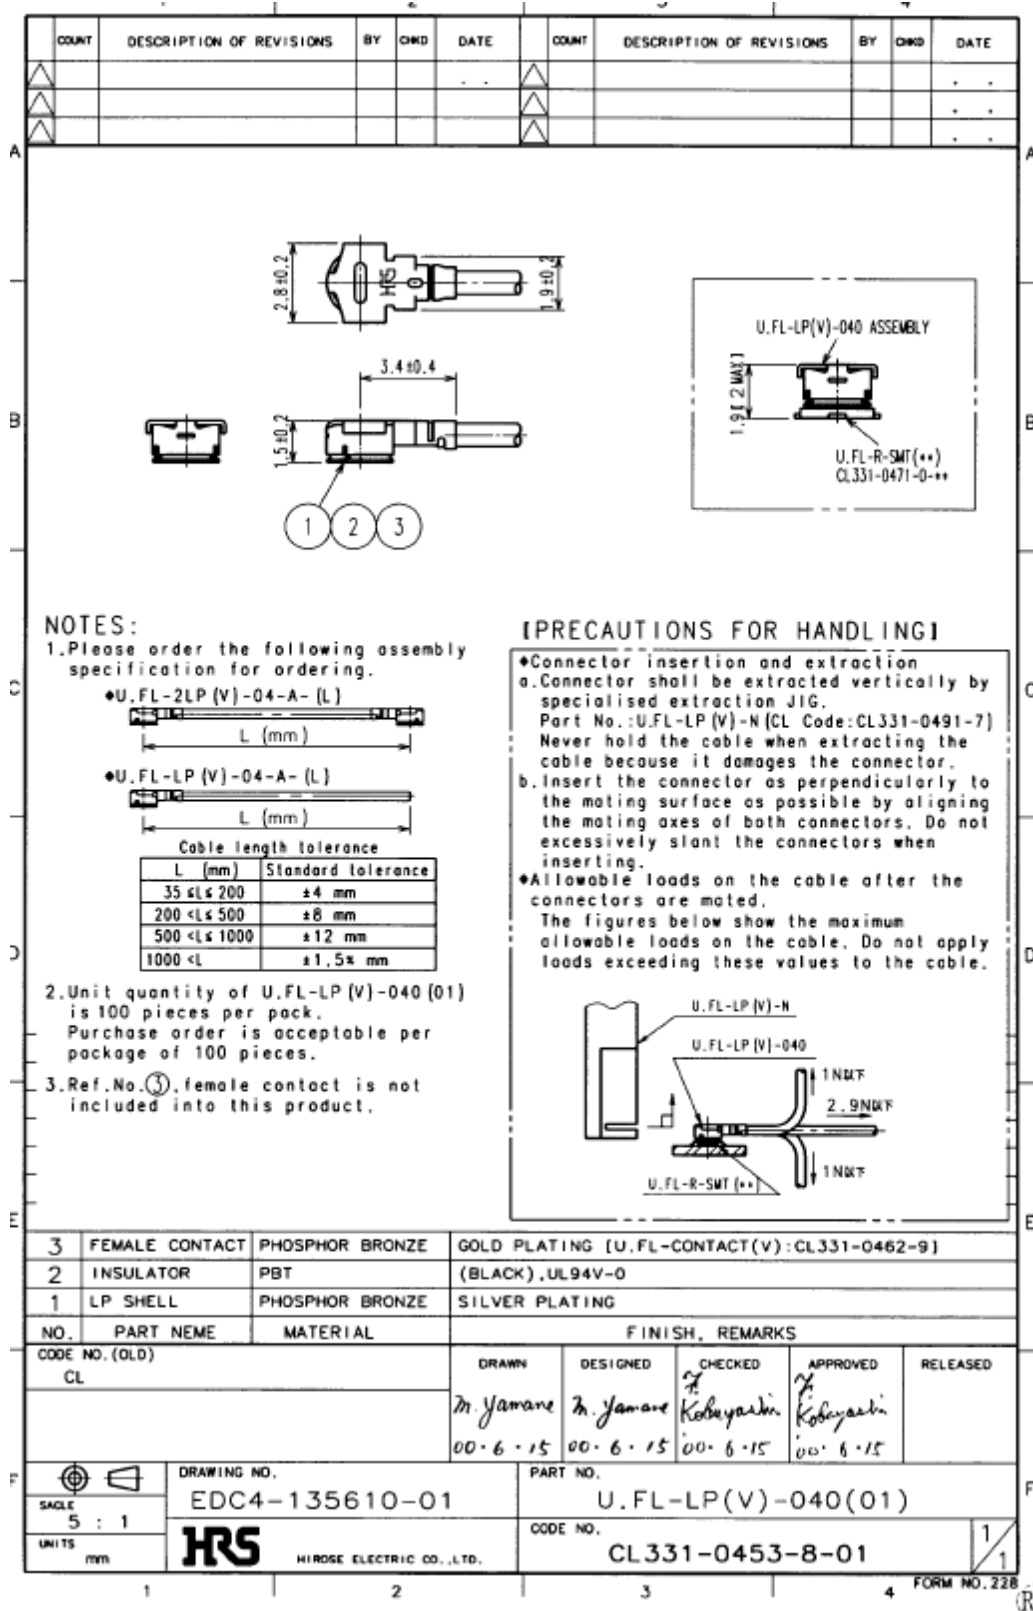

Figure 41: Specifications of U.FL-LP-(V)-040(01) plug
In addition to the connectors illustrated above, the U.FL-LP-(V)-040(01) version is offered as an extremely space saving solution. This plug is intended for use with extra fine cable (up to $\varnothing 0.81$ mm) and minimizes the mating height to 2 mm. See Figure 41 which shows the Hirose datasheet.